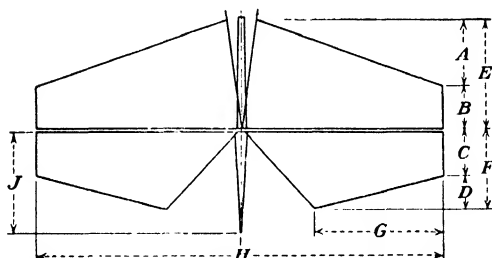

Fig. 96.—Horizontal stabilizers and elevators.
1. Measure all dimensions on the airplane tail in Fig. 96, to the nearest 32nd.